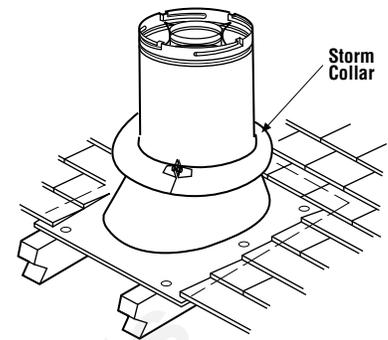

Figure 23
J. Install the storm collar - Install the storm collar, supplied with the flashing, over the vent/flashing joint. See **Figure 23**. Loosen the storm collar screw. Slide collar down until it meets the top of the flashing. Tighten the adjusting screw. Apply non-combustible caulking or mastic around the circumference of the joint to provide a water tight seal.